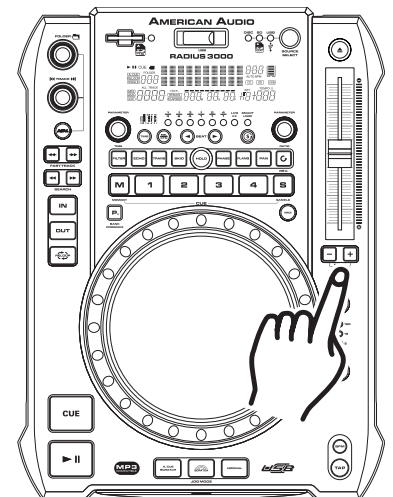

Figure 36
Adjusting the PITCH SLIDER'S RANGE (8): You may change the PITCH SLIDER'S (4) operating range at any time. To change the operating range be sure the pitch function is turned on, see figure 36. The pitch percentage range can be changed between +/-4%, +/-8%, +/-16%, and +/- 100%. 4% will allow the least amount of pitch manipulation and 100% will allow the most amount of pitch manipulation. To adjust the different ranges, press the PITCH ON/OFF BUTTON (6) and tap on the PITCH RANGE BUTTON (8) until your desired value is reached, see figure 38.